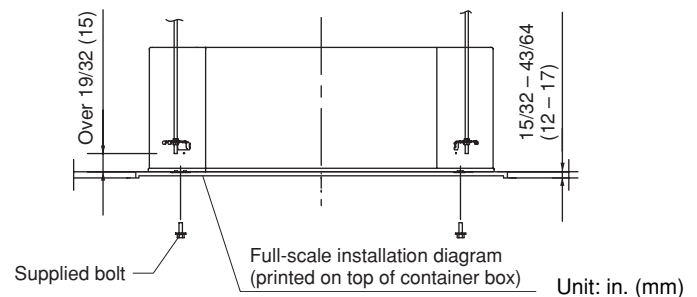

Fig. 3-4
- When placing the unit inside the ceiling, determine the pitch of the suspension bolts using the supplied full-scale installation diagram. (Fig. 3-4) Tubing and wiring must be laid inside the ceiling when suspending the unit. If the ceiling is already constructed, lay the tubing and wiring into position for connection to the unit before placing the unit inside the ceiling.